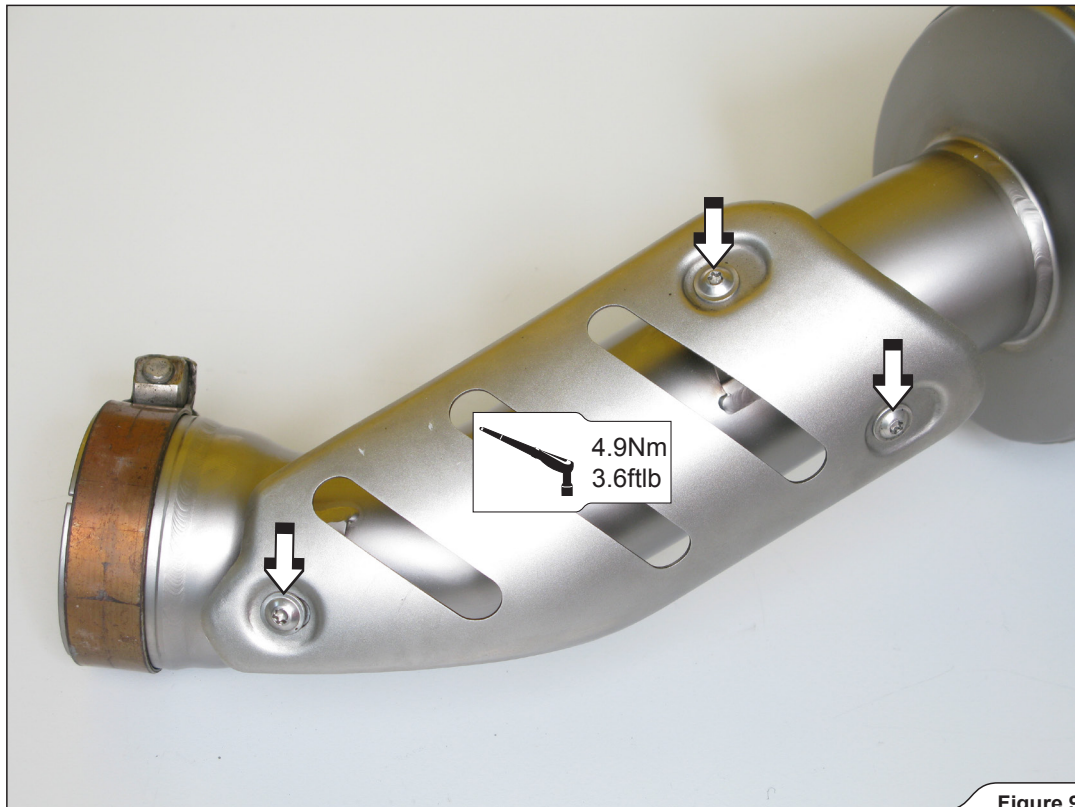

Figure 9
2. Tighten the marked bolts to a specified torque (**Figure 9**).